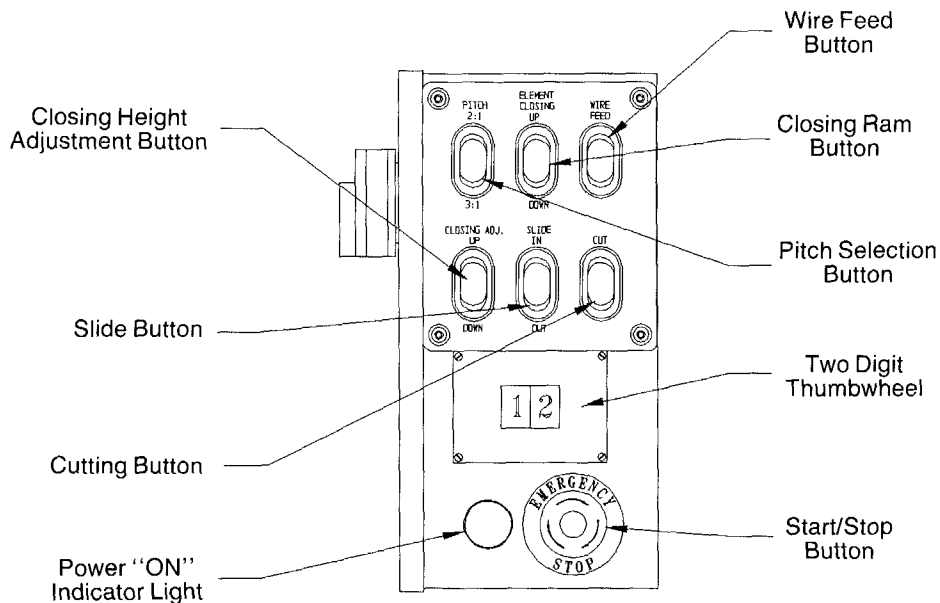
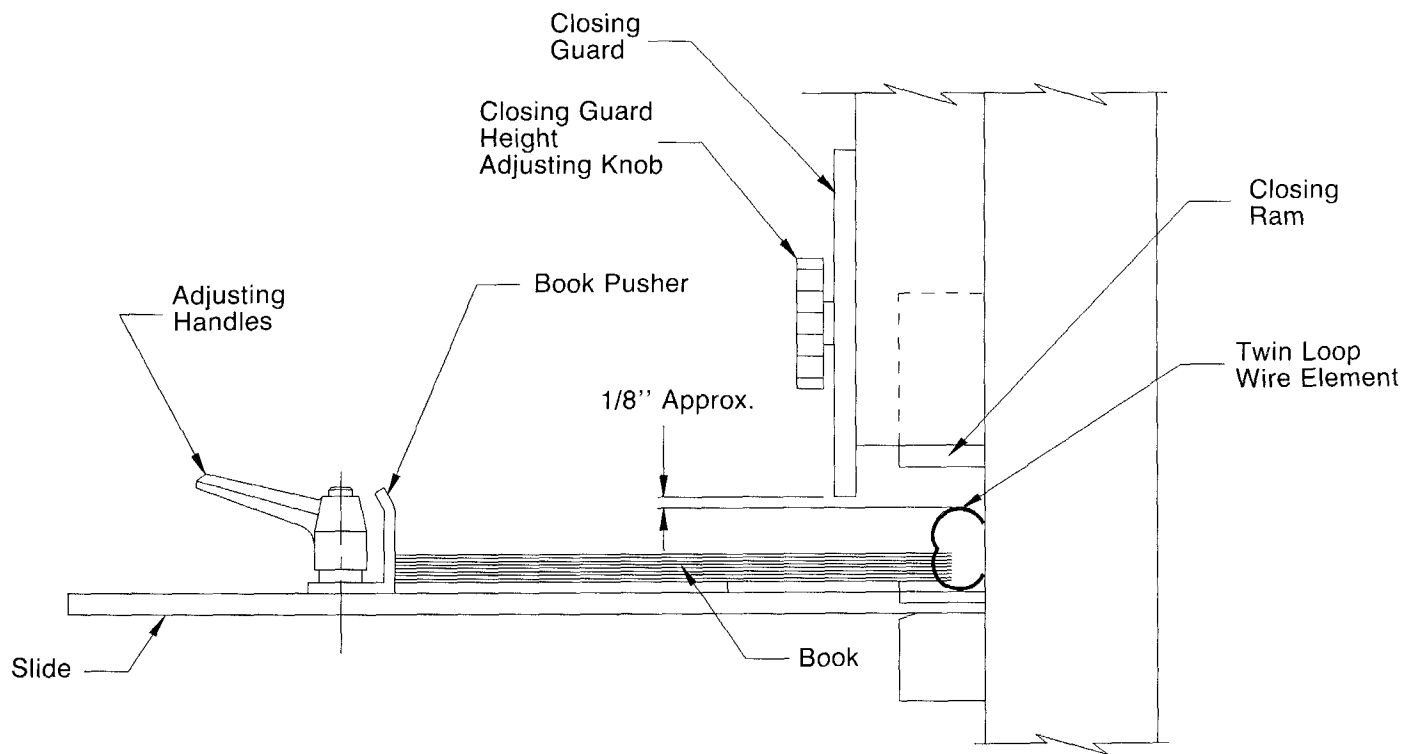

Figure 8
Figure 10
To unspool the wire, hold the leading edge of the wire in your left hand and pull up on the red "START/STOP" button (see Figure 8) with your right hand. Push down on the button when enough wire is unspooled.
1. The two-digit thumbwheel located on top of the main electrical enclosure (See Figure 8), is used to select the desired number of loops needed to bind your product. Turn the numbers up or down to change the number of loops. Upon the next cycle of the machine, the new length of the Twin Loop wire element will be fed.
- A. Loosen the two adjusting handles which secure the book pusher (See *Figure 10*). Slide the book pusher all of the way back.
- C. Adjust the closing guard all the way up (See *Figure 10*).
- D. Pull up on the red “Start/Stop” button to supply power to the machine (See *Figure 8*).
- E. Move your hands away from the loading area and push the slide button to the “In” position (See *Figure 8*). This will advance the slide area forward, placing the wire under the closing ram (See *Figure 10*).
- G. Adjust the height of the closing guard by loosening the two knobs (See *Figure 10*). Position the guard approximately 1/8” above the unclosed wire. Tighten the knobs to secure the guard.
1. Hold the closing height adjustment button (see *Figure 8*) in the “UP” or “DOWN” position to change the closing height.